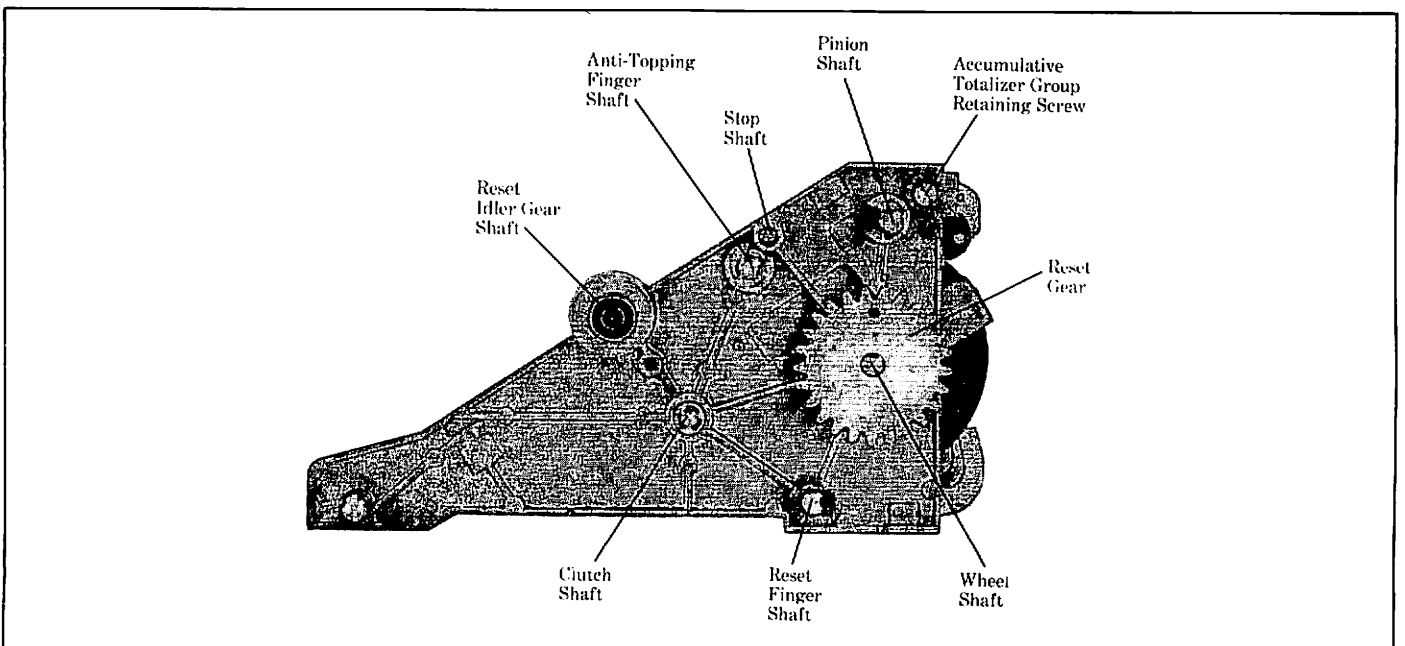

Figure 8. Left-Hand Side Plate.
- a. Remove retaining ring and washers securing the clutch shaft group to the left-hand side plate. See Figure 8.
- a. Remove retaining ring and washer securing the reset group to the left-hand side plate. See Figure 8.
- a. Remove the retaining ring and washers securing the anti-topping finger group shaft to the left-hand side plate. See Figure 8.
- a. Remove retaining ring securing pinion shaft to the left-hand side plate. See Figure 8.
- b. Install the shaft into the proper hole in the left-hand side plate. See Figure 8.
- b. Install anti-topping finger group in proper hole in left-hand side plate (see Figure 8). Be sure all fingers and clutch lever are free of wheels and the pin on the reset lever engages the track on the cam.
- b. Insert stop shaft into proper hole in left-hand side plate. See Figure 8.
- b. Install shaft into left-hand side plate and secure with retaining ring and washers. See Figure 8.
- a. Install shaft in proper hole in left-hand side plate. Add washers and secure with retaining ring. See Figure 8.